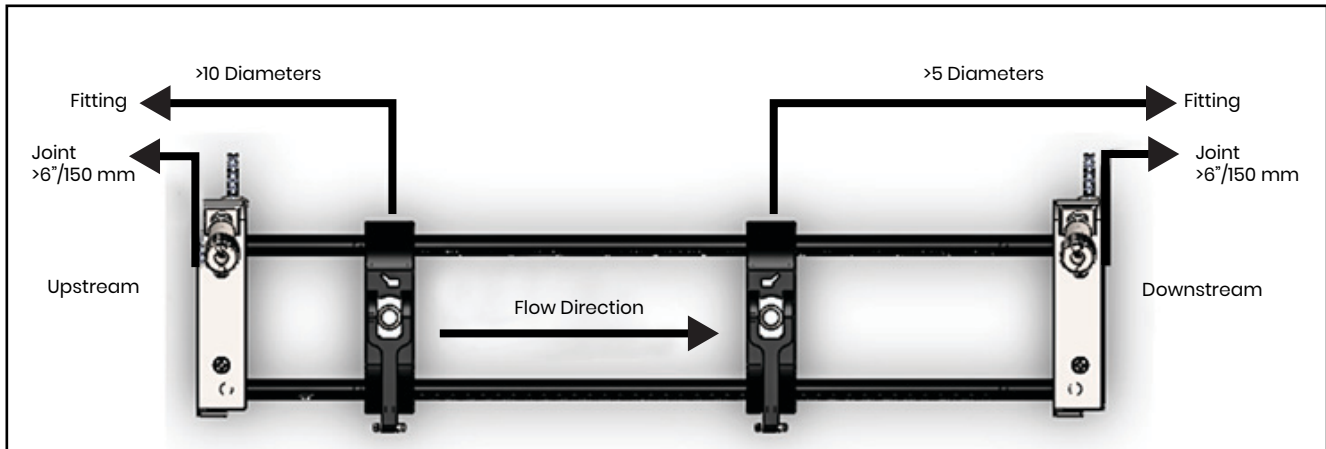

Figure 9: Selecting the Pipe Location
2. Select a clamp-on fixture mounting location on the pipeline which meets the following requirements (see *Figure 9* below):